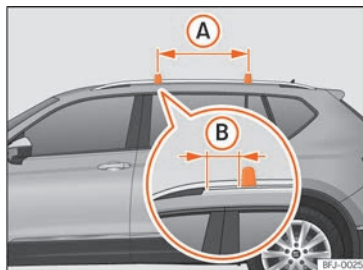

Fig. 208 Attachment points for the roof railings for the roof carrier
The crossbars are assembled on the roof railings. The distance between crossbars >>> Fig. 208 (A) should be between 75 and 90 cm and the distance between the crossbars and the brackets of the roof railings (B) must be 15 cm.